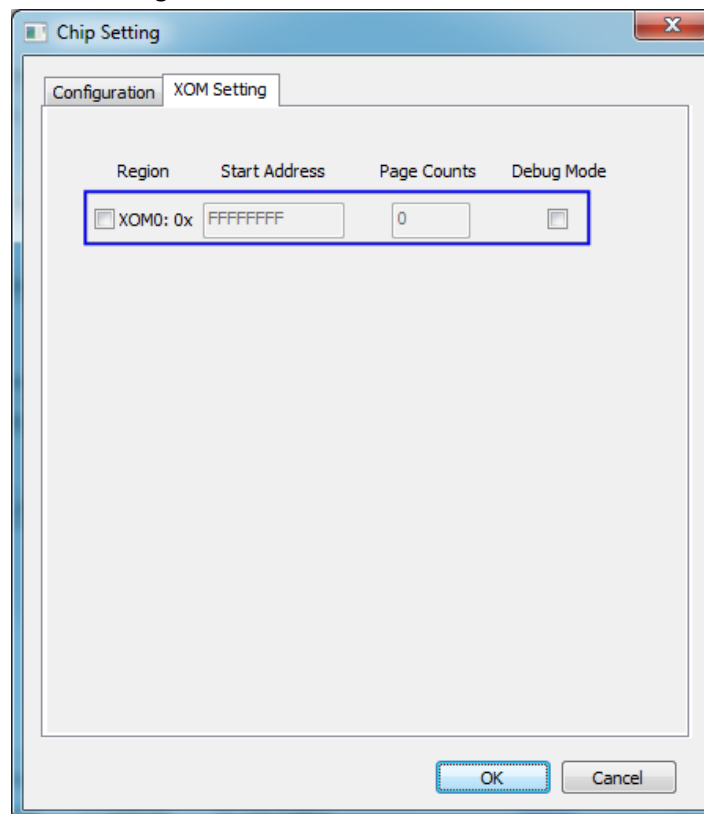

Figure 4-8 Check XOM Status
11. Click “**Refresh**” button then re-enter “XOM Setting” page to check XOM configure status, as shown in Figure 4-8.